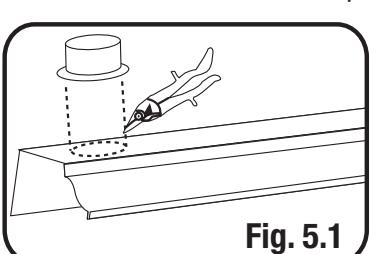

Fig. 5.1
- To use an outlet, trace the end of the outlet on the outside of the gutter, drill a hole and cut with tin snips (Fig. 5.1).